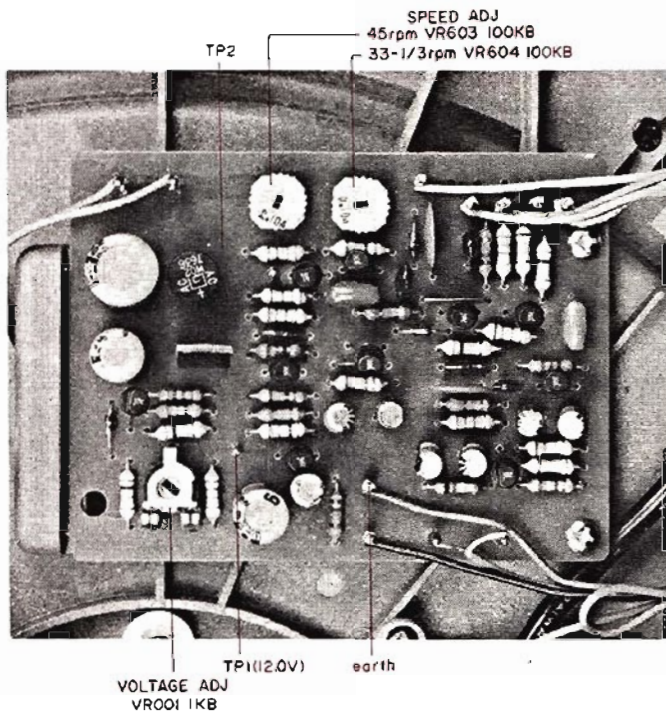

Fig. 3 Control P.C Board
#### ADJUSTMENT (Refer to Fig. 3)
#### (Refer to Figs. 3 and 4)
- 2) Observe Row 1 revolutions of Strobe markings. Adjust VR604 100 kB (Fig. 3) until Row 1 Strobe markings appear to come to a stand-still.
- 4) Observe Row 2 revolutions of Strobe markings. Adjust VR603 100 kB (Fig. 3) until Row 2 Strobe markings appear to come to a stand-still.
- 2) Observe Row 3 revolutions of Strobe markings. Adjust VR604 100 kB (Fig. 3) until Row 3 Strobe markings appear to come to a stand-still.
- 4) Observe Row 4 revolutions of Strobe markings. Adjust VR603 100 kB (Fig. 3) until Row 4 Strobe markings appear to come to a stand-still.
- 2) Connect frequency counter to TP-2 and earth (Fig. 3). Adjust semi-fixed resistor VR604 100 kB for the frequency counter to read 83.333 Hz.
- 4) Connect frequency counter as in 2) and adjust semi-fixed resistor VR603 100 kB (Fig. 3) for the frequency counter to read 112.5 Hz.